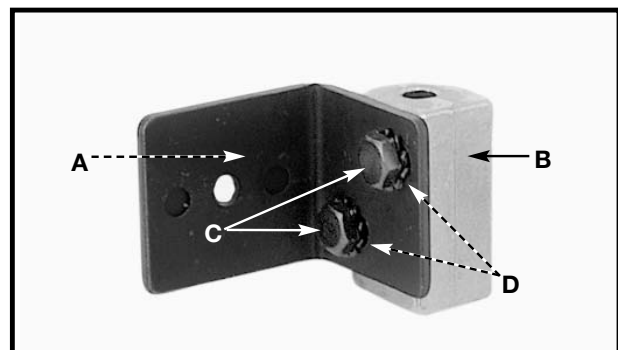

Fig. 17
2. Fasten the splitter support bracket (A) Fig. 17 to the splitter bracket (B) using two 1/4-20x1/2" hex head screws (C) and two 1/4" external tooth lockwashers (D).